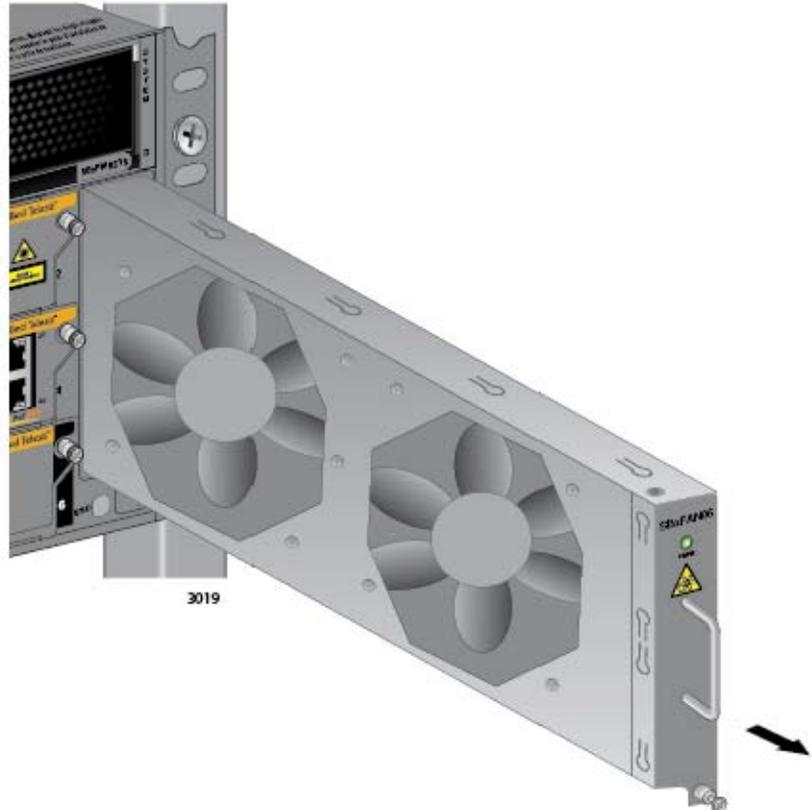

Figure 156. Removing the AT-SBxFAN06 Fan Module from the Chassis
6. After the fans have stopped, slide the module from the chassis. Refer to Figure 156 on page 229.